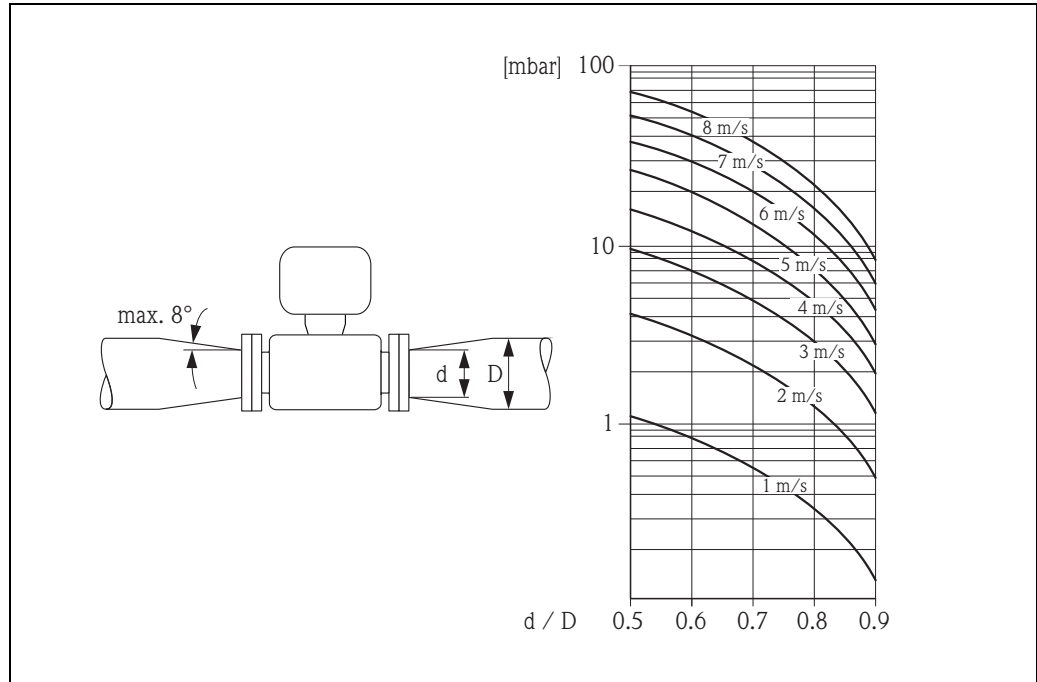

Fig. 15: Pressure loss due to adapters
- Flow velocity can be increased, if necessary, by reducing the nominal diameter of the sensor (→ Fig. 15).